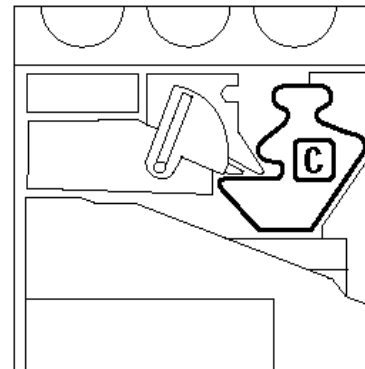

Figure 18: Locating the old Developer Waste Container
- 3 Locate the Developer Waste container (area C in Figure 18).